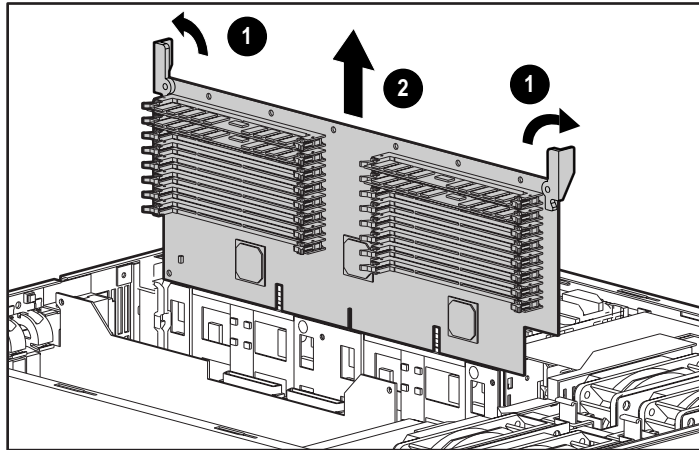

Figure 4-7. Removing the memory board
2. Remove the memory board as shown in Figure 4-7.